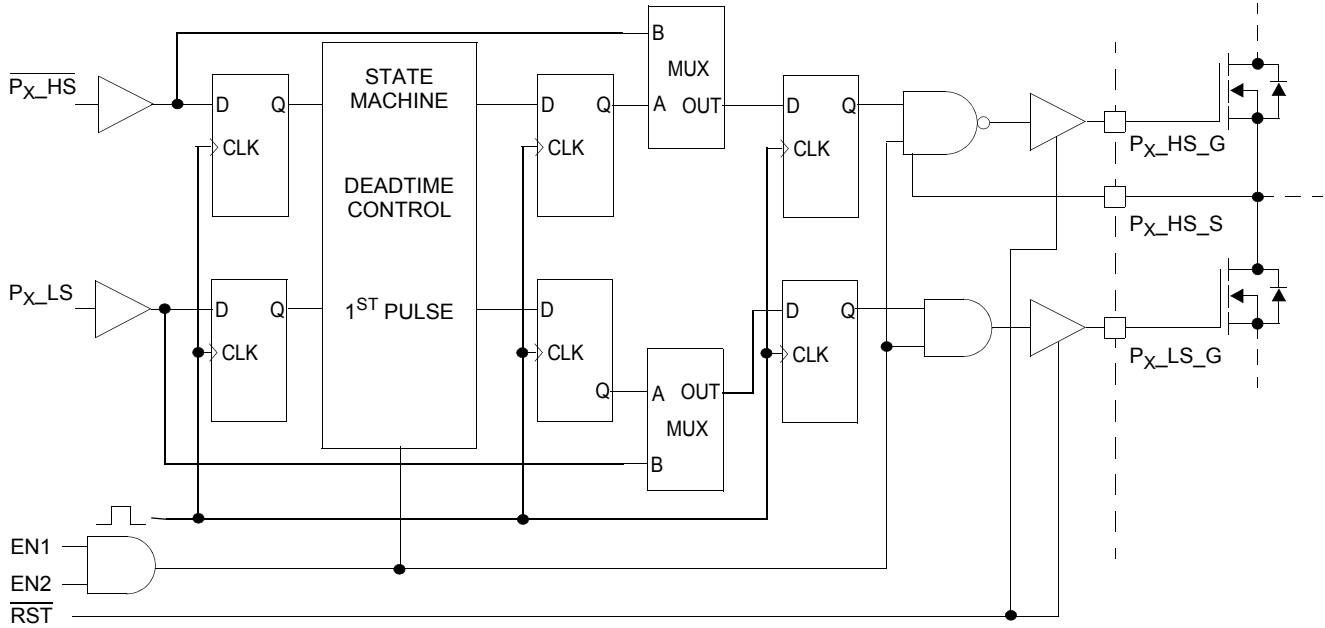

Figure 6. Deadtime Control Delays
- 42. These delays include all logic delays except deadtime. All internal logic is synchronous with the internal clock. The total delay includes one clock period for state machine decision block, an additional clock period for FULLON mux logic, input synchronization time and output driver propagation delay. Subtract one clock period for operation in FULLON mode which bypasses the state machine decision block. Synchronization time accounts for up to one clock period of variation. See Figure 6.